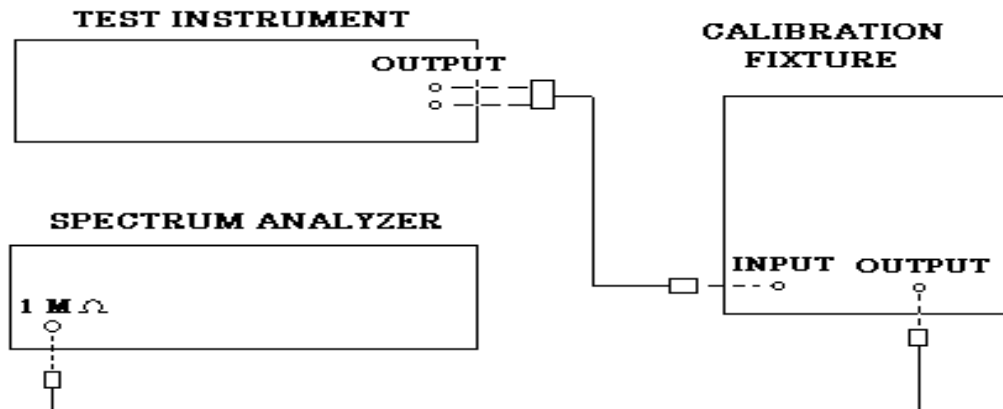

Figure 3. Total harmonic distortion
- (1) Connect equipment as shown in figure 3.